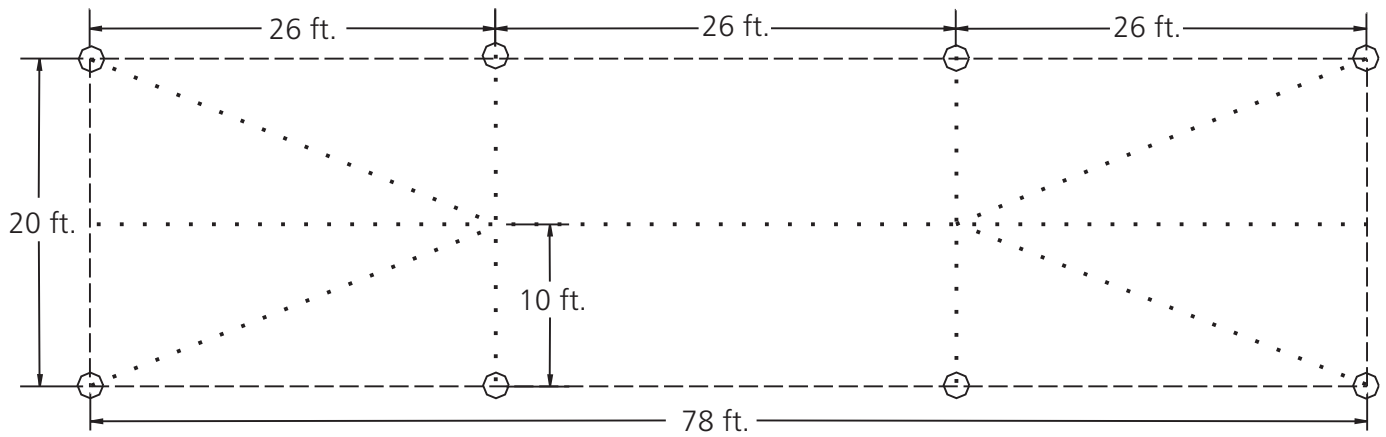

Fig. 3 Side View
4. Prepare holes, as shown in figure 3.
5. Set ground sleeves (B) into holes, place uprights (A) into ground sleeves (B), and lock alignment slot onto alignment pin, as shown in figure 3. Position uprights (A), as shown in figures 5 & 6.
6. Plumb and level all uprights (A), and seal joint between ground sleeves (B) and uprights (A) using tape (this will stop debris from entering ground sleeves (B) during initial installation.) Be sure that the anti-spin slot located on the bottom of uprights (A) are locked onto ground sleeve (B) pin.
7. Pour concrete to top of ground sleeves (B), as shown in figure 3.